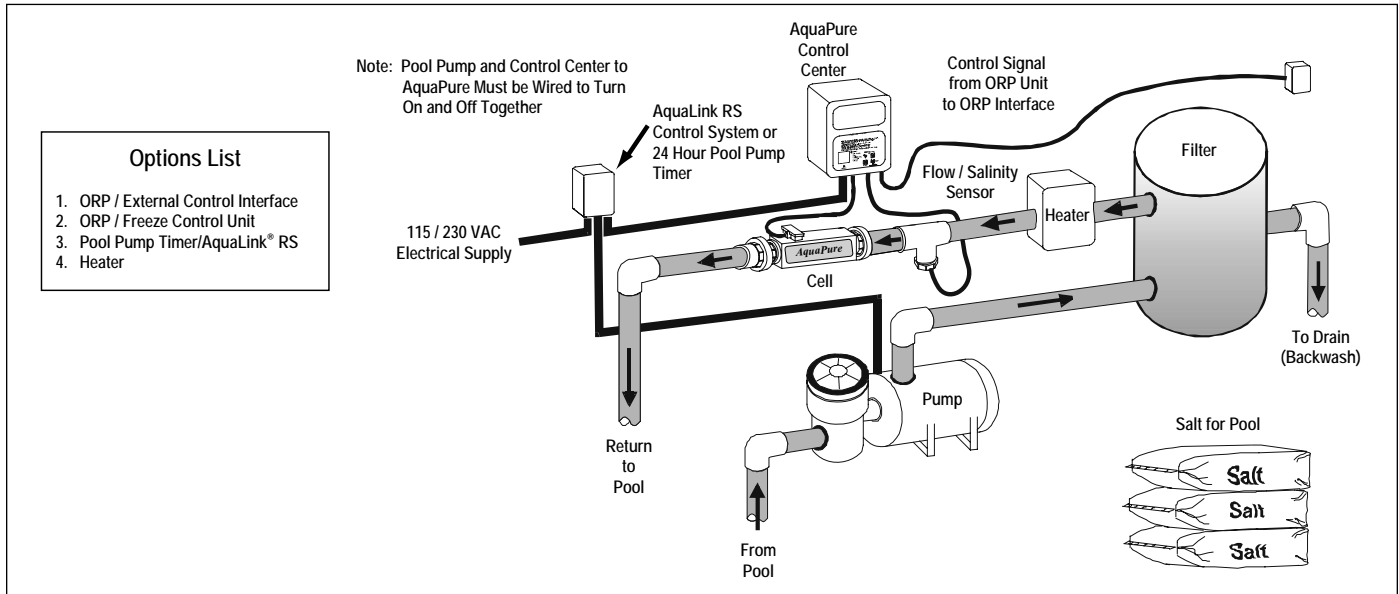
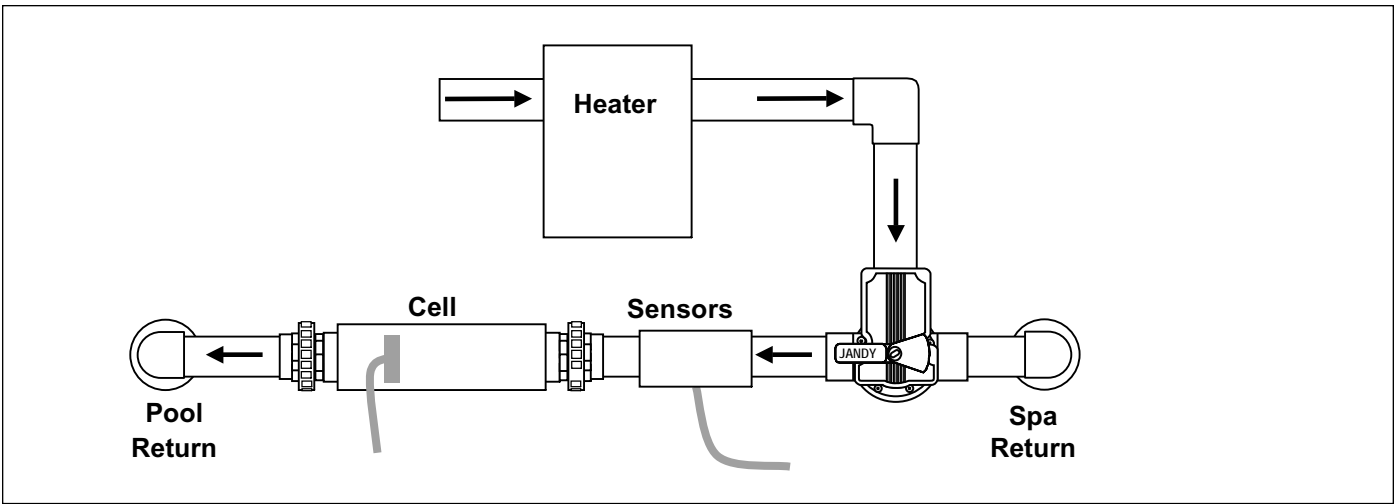
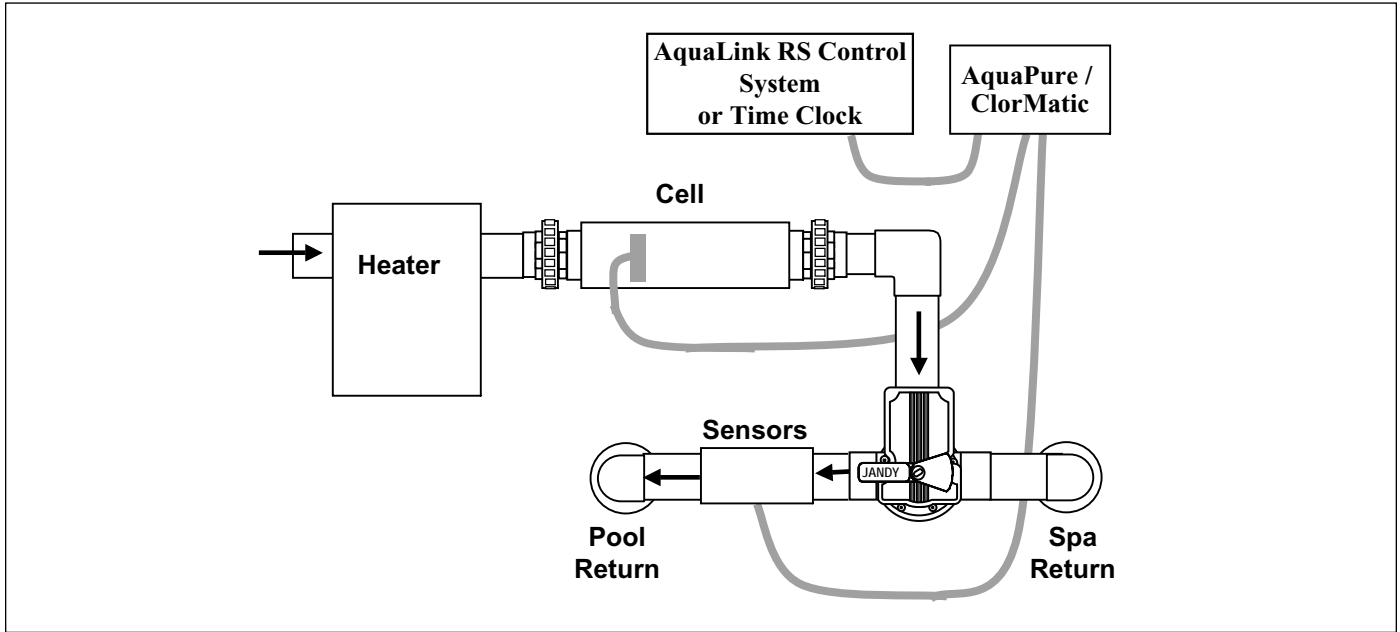

Figure 1. Typical AquaPure Installation With Options
Figure 3. Recommended Plumbing Configuration with Cell and Sensors #1, Top View
Figure 5. Alternate Plumbing Configuration with Cell and Sensors, Without Spa Bypass for Spillover, Top View
It is recommended that the water Flow/Temp/Salinity Sensor is installed in the same piping as the electrolytic cell, without any valves or diverters between them. (See page 5 Figure 1).
The preferred installation is that the Sensors and Cell are plumbed in the return line to the pool after (downstream) all the pool equipment (filter, heater, solar, etc.). The Cell and Sensor Tee fitting are designed to be plumbed into 2" PVC pipe. Adapters can be used for systems with 1.5" plumbing. Figures 3 and 4 on page 8 illustrate the recommended plumbing configuration, which result in the most reliable operation.
There are alternate plumbing layouts to allow for chlorination of the pool during spa spillover operation, but prevent over-chlorination of the spa during “*spa only*” operation (see figures 5 and 6). The configuration shown in Figure 5 will only chlorinate the pool. Whereas Figure 6 allows chlorination of the pool or spa. If the AquaPure is controlled by an AquaLink RS, the AquaPure is notified when the AquaLink RS is in Spa Mode and adjusts to 10% of the AquaLink RS output setting to ensure the spa is not over-chlorinated.
3. Position the Flow/Temp/Salinity Sensor Tee and Cell in the recommended position (see page 13 Figure 11 Detail A, page 8 Figures 3 and 4, page 9 Figures 5 and 6, and page 5 Figure 1).
4. Locate a suitable section of pipe, approximately 21 inches (533 mm) long or follow the recommended plumbing diagrams beginning on page 8, Figures 3, 4, 5, and 6. The Flow/Temp/Salinity Sensor cable and Cell DC cord ***must*** be able to reach from the control center to this section.